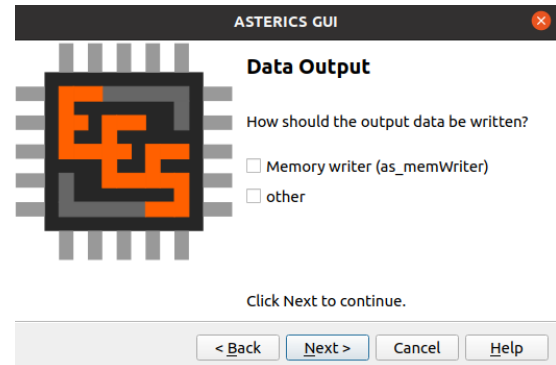

Figure 6.6.: Output source
2. Figure 6.6: After the input source has been selected, it should now be selected how the processed input should be written. With the option `Memory writer (as_memWriter)` the output is written to memory and the option `other` is currently under development.